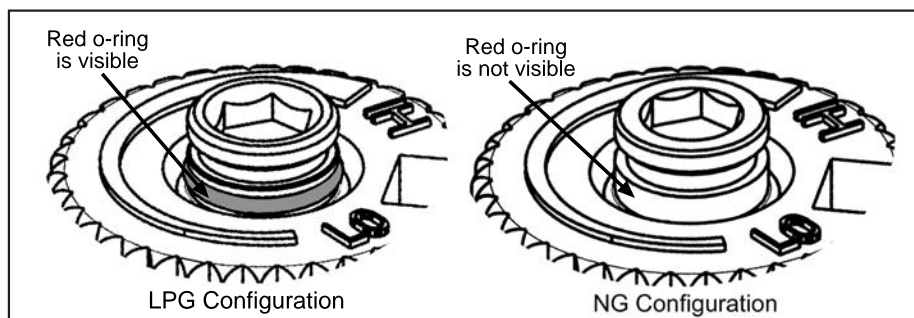

Figure 19: O-ring on valve screw.
- f) Verify that if the conversion is from NG to LPG, the screw must be re-assembled with the red o-ring visible (refer to Figure 19). If the conversion is from LPG to NG, the red o-ring of the screw must be not visible.